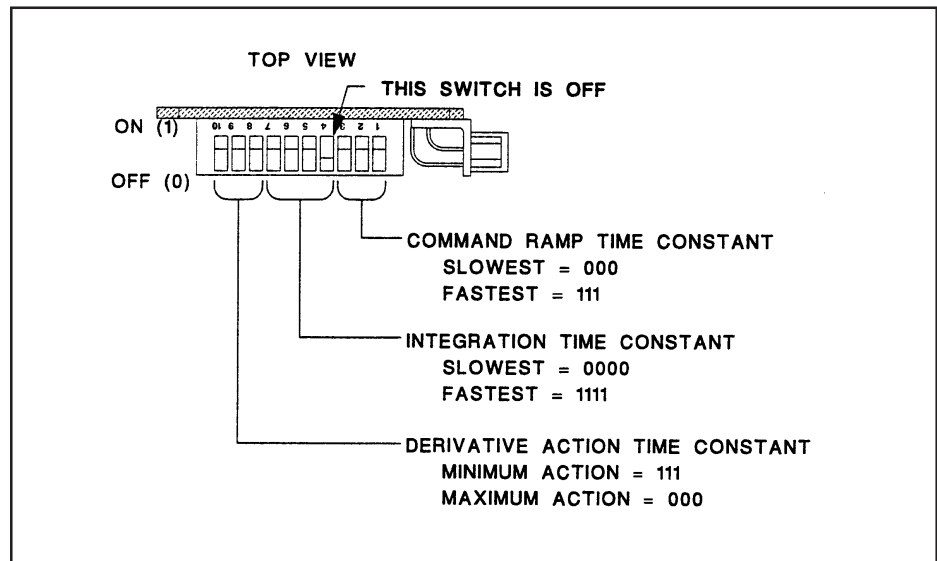

Figure 3-1 Response Dip Switch
The other two switch sections function in a similar manner. Switches 4-7 vary the integration time. The shortest time constant is enabled with all four switches ON (1111). The longest time constant is enabled with the switches OFF (0000). Switches 8-10 vary the derivative action. Minimum derivative action occurs when the switches are ON (111). This information is summarized in Figure 3-1.